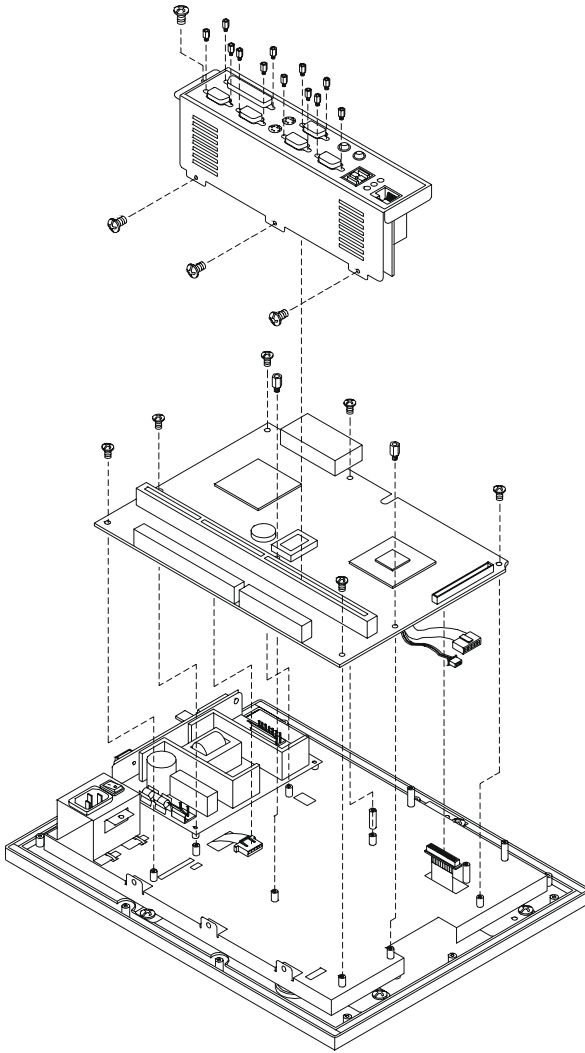

Figure 2.4: Installing/removing the PCM-9679 & I/O adapter
3. Install the PCM-9679 in the panel and screw in the eight screws (see Figure 2-4)
4. When the PCM-9679 is mounted in the panel, plug and press the adapter into the socket (see Figure 2-4))